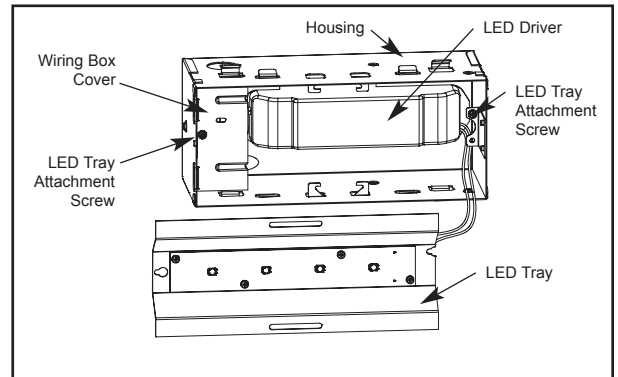

Figure 5
Step 2. Disengage LED tray by loosening the two attachment screws. Move aside for access to wiring box cover. Remove wiring box cover by pressing down the top and releasing from tabs (Fig. 5). Remove the appropriate knock-out(s) to accommodate the type of electrical service to be used/allowed by your local electrical code: Connect conduit to fixture housing with proper connectors (not supplied.)